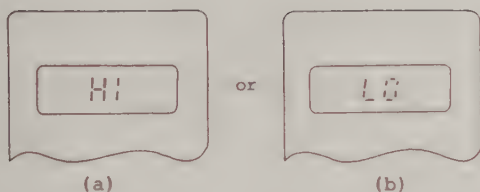

Fig. 3-4 Display Without Connecting the Sensor
- (1) Connect the sensor to the indicator (ML96B) with the cable provided, remove the cover of the sensor, and turn on the power switch of the indicator. The indicator displays a value proportional to the outside optical power strength. If the power switch of the indicator is turned on without connecting the sensor, either of the values shown in Fig. 3-4 is displayed because the input connector is open.
- (2) Apply the cover to the light receiving surface of the optical power sensor to shut off the light, then the indicator displays LO shown in Fig. 3-4 (b).
- (3) Set the indicator select switch to W and slowly turn ZERO SET knob so that the indicator displays 0 (0.00 nW in the case of the MA911A/MA912A/MA97B/MA913A/C/MA916A and MA917A or 0.000 μ W in the case of the MA98A).